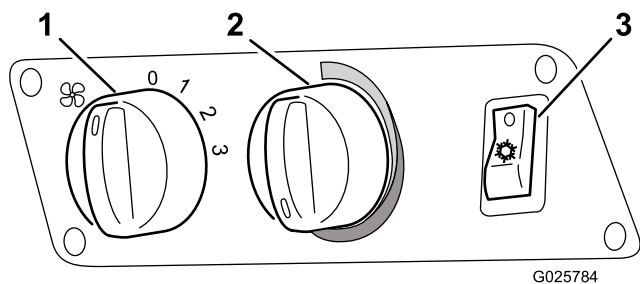

Figure 5
2. Switch on the blower switch (Figure 5).
3. Switch on the air-conditioning switch (Figure 5).
4. Set the temperature controller (Figure 5) to the maximum Cold setting (full counterclockwise direction).